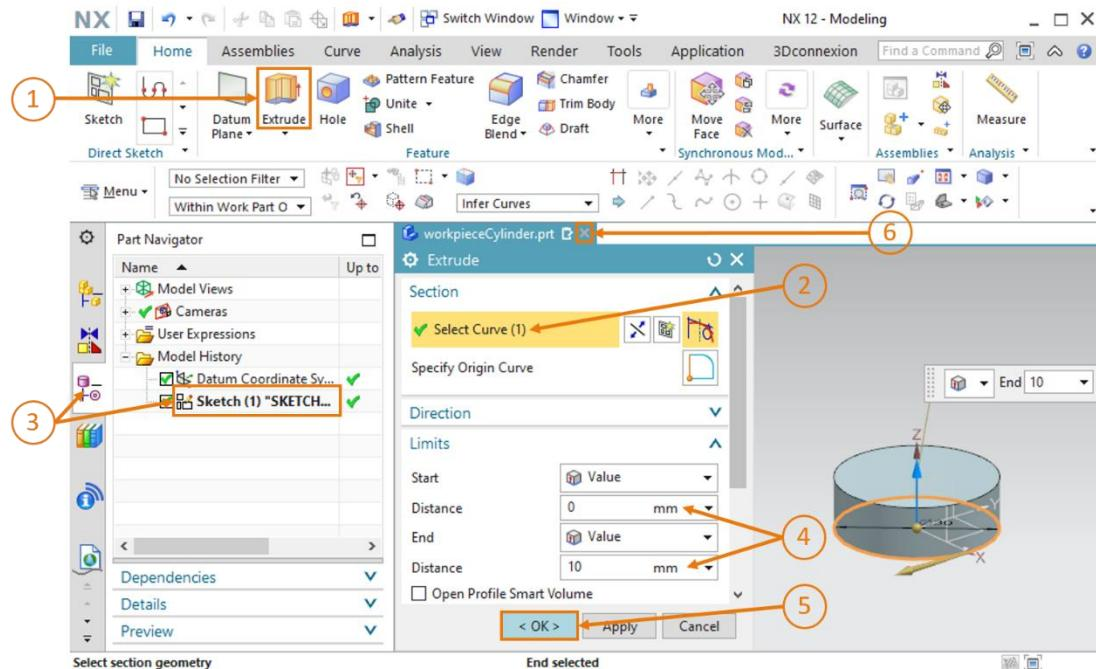

Figure 17: Extruding a circle into a cylinder
- For generating a cylinder from a circle, you will also use the "Extrude" function. The workflow used for generating the cube in Chapter 7.1.1 (see Figure 17, steps 1-5) is also used here, except that a value of 10 mm is specified here for the end distance (see Figure 17, step 4).
- This completes the modeling of the 3D model for the cylinder workpiece. Switch back to the trimetric view, as described in Chapter 7.1, step 3, save your model and close the model via the model selection bar (see Figure 17, step 6).